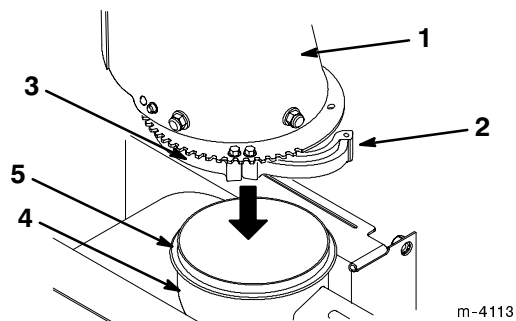

Figure 11
1. Lightly grease the chute ring (Fig. 11).
2. Rotate the loose chute retainer on the bottom of the chute outward (Fig. 11).
3. Lower the chute over the opening on the top of the auger housing (Fig. 11).
4. Make sure that the chute ring fits into the grooves in the fixed chute retainers (Fig. 11).